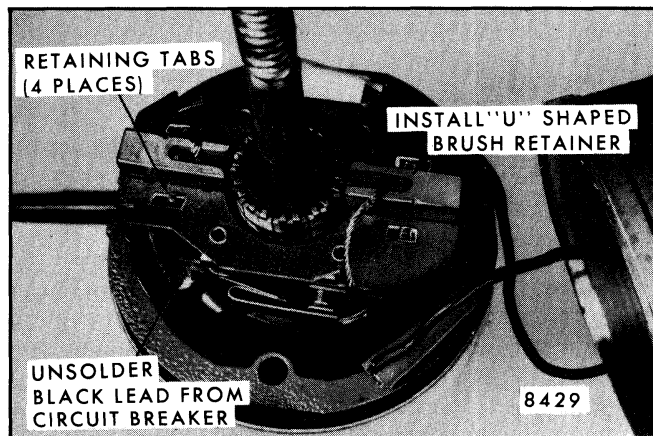

Fig. 2-96-Brushes and Brush Plate
4. Carefully note the routing, then unsolder the black lead from circuit breaker (refer to Fig. 2-96).
5. Straighten out the four tabs that secure the brush plate to the field coil bracket (Fig. 2-96).
holder that has brush lead attached to circuit breaker (Fig. 2-96).
5. Position the partially assembled brush plate over the armature shaft far enough to allow reassembly of the remaining brush in its brush holder; then, position the brush plate assembly on the mounting tabs in the position shown in Figure 2-96.